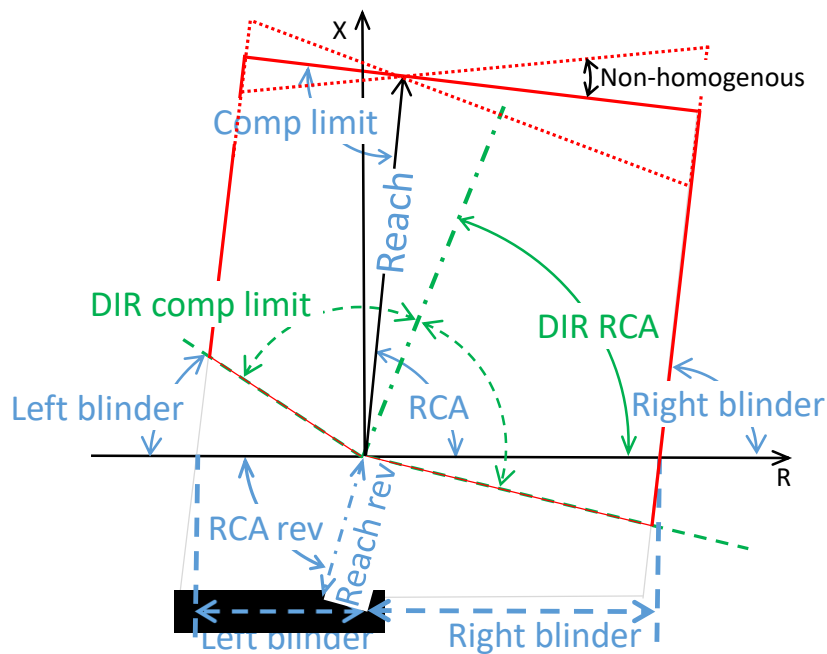
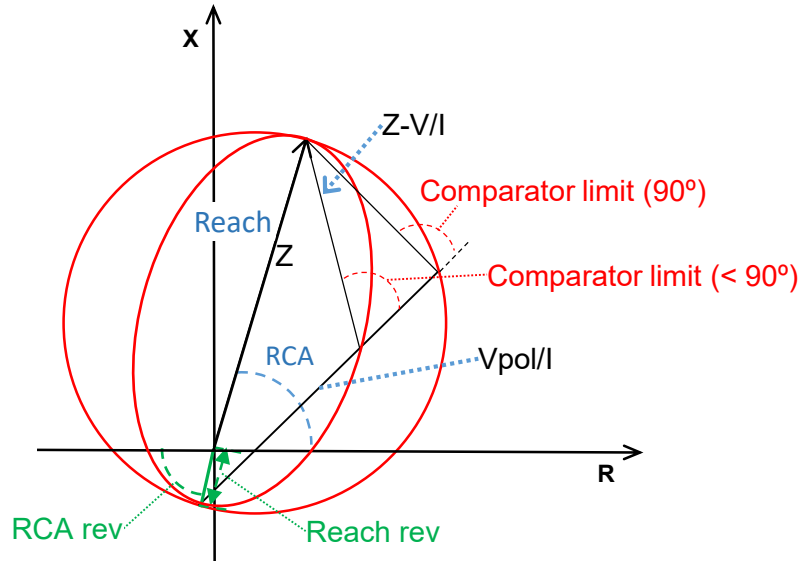

Figure 2-1 Quadrilateral characteristic (Quad shape).
Figure 2-2 Mho or Lens characteristics.
Distance functions have 4 levels. See Figure 2-1 and Figure 2-2 for identifying various input variables. Each distance function has the following settings:
- ❑ **Reach** and **Reach rev:** Reach setting in %, ohms at the secondary of the current transformer (CT) and voltage transformer (VT) or ohms at the primary.
- ❑ **Comparator limit angle** (Mho or Lens shapes, see Figure 2-2):
- ❑ **Left blinder** and **Right blinder** (Quad shape): Intersection point of the blinder on the R-axis of the R-X plan in %, ohms at the secondary of the current transformer (CT) and voltage transformer (VT) or ohms at the primary (selection option). See L-blinder and R-blinder in Figure 2-1.
- ❑ **Comparator limit angle** (Quad shape, see Figure 2-1, “Comp limit”): angle in degrees between the reactance limit and the reach vector.
- ❑ **Non-homogeneous angle:** (for 21G only, Quad) Modifies the angle of the polarizing current of the reactance comparator (degrees). See Figure 2-1, “Non-homogenous” angle.
- ❑ **DIR Comparator limit angle:** “DIR comp limit” angle on Figure 2-1, in degrees.
- ❑ **Enable the reactance characteristic supervision:** Add a reactance supervision. The angle between the reactance limit and the reach vector is Comparator limit angle (the same as for Quad shape, see Figure 2-1).
Table 4-1: Forward/Reverse Mho/Lens (Figure 2-2)
Where $V_{A, MEM}$, $V_{B, MEM}$, $V_{C, MEM}$ are the memory voltages of phases A, B and C, respectively, I_G is the measured ground current, Z is the reach impedance defined by Reach and RCA (see Figure 2-2), K_0 and K_{0M} are defined by the data inputs Z_0/Z_1 mag, Z_0/Z_1 angle, Z_{0M}/Z_1 mag and Z_{0M}/Z_1 angle.
Table 4-2: Non-directional Mho/Lens (Figure 2-2)
Z_{rev} is the reverse reach impedance defined by Reach rev and RCA rev data inputs shown in Figure 2-2.
Table 4-3: Quad reactance (see Figure 2-1)
The impedance Z is found from Reach and RCA data inputs (see also Figure 2-1). The Non-homogenous angle is zero for phase elements. For 21G Mho/Lens application the Non-homogenous angle is also zero.
Z_{DIR} is the directional supervisor impedance oriented by DIR RCA (see Figure 2-1).
In this table Z_{BL} is the blinder vector defined by Left blinder and Right blinder length and angle parameters shown in Figure 2-1.